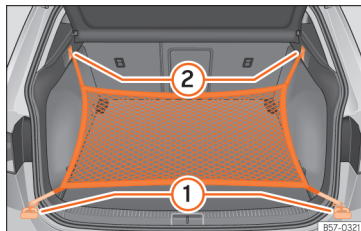

Fig. 134 In the luggage compartment: rings ① and hooks ② for attaching the net bag.
- Secure the short net hooks to the fastening rings »» Fig. 134 ① »» ⚠. The bag zip should be facing upwards.
- Secure the straps in the bag hooks ②.